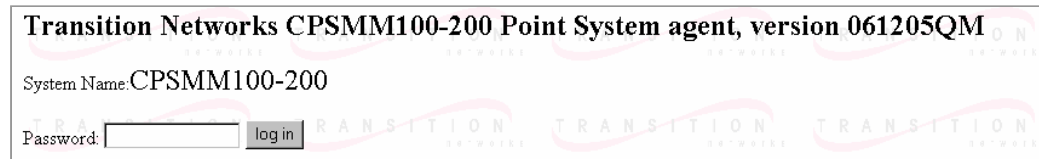

Figure 50: Chassis Agent (MMU) Login Screen
3.	Click the GO button to launch the password screen. See Figure 50.